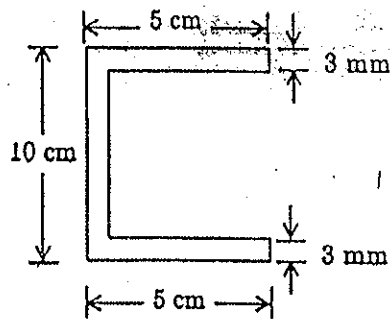

Fig. 1
13. (a) Determine the shear flow and shear center for the section shown in Fig. 1. Section is subjected to a vertical shear load of 5 kN.